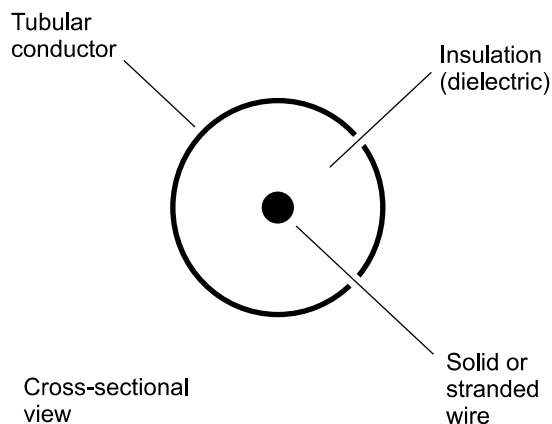

Fig. Test2-4. Illustration for Part Two Test Question 29.
29. Figure Test2-4 is a cross-sectional view of a cable. What type of cable is this?